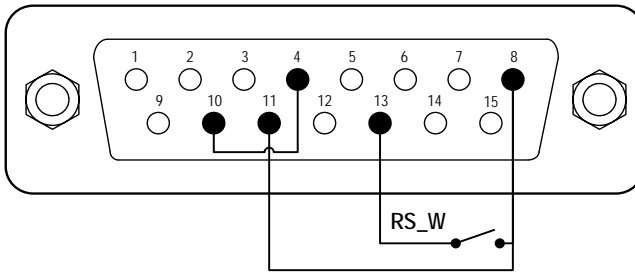

Figure 16. Logic Level Control with Internal 12V Power Source
- 1) Switch the power off. Wire the DB15 connector as shown on Figure 16 or Figure 17, and connect it to the DB15 port on the rear of the pump.